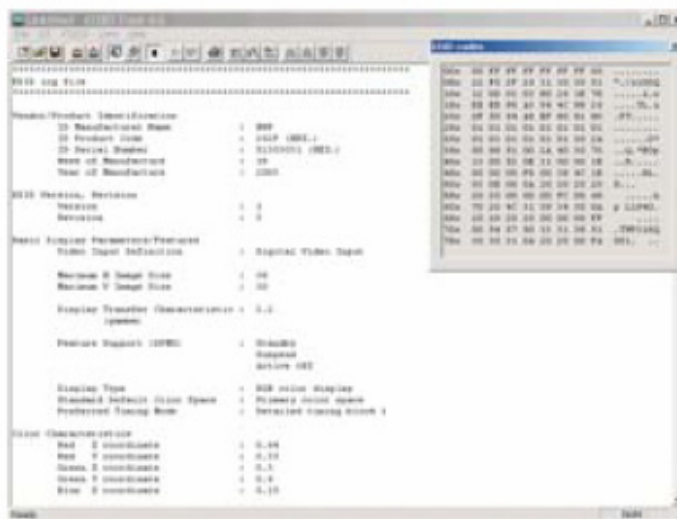

Fig. 30
4. Click  icon (Read EDID function) to read DDC EDID data from monitor. The EDID codes will display on screen as shown in Fig. 30.